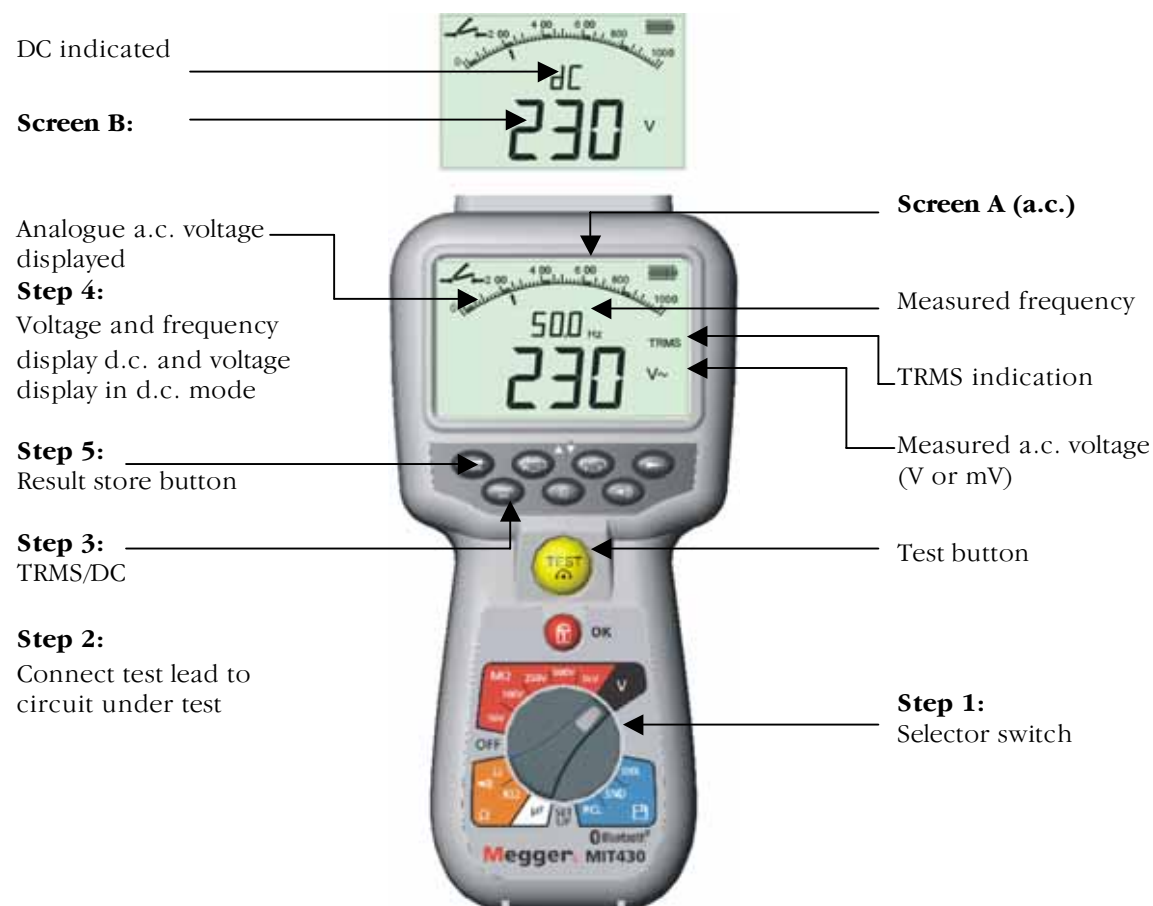

Figure 5 Voltage and frequency measurement
Procedure for measurement of voltage and frequency (Refer to Figure 5)
4. The measured voltage will be displayed on the main digital scale in units of V or mV, as appropriate. In TRMS mode, the measured frequency (Hz) will be simultaneously displayed on the MIT410, MIT420, MIT430, MIT 481, and MIT 40X instruments (as shown on Screen A). See Figure 5 Screen B for dc mode display.